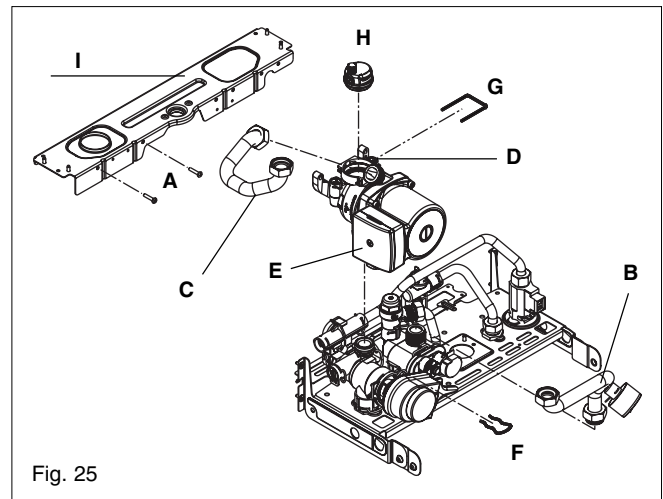

Fig. 25
6.5 PUMP ASSEMBLY (fig. 25)
6.7 BOTTOM AUTOMATIC AIR RELEASE VALVES (fig. 25)
6.24.1 EXPANSION VESSEL REMOVAL (with sufficient clearance above, fig. 25 & 38)
Disconnect the flexible expansion pipe from the vessel. Unscrew the nut that secures the vessel to the frame (I, fig. 25). Locate and remove the 6 screws (A) that secure the vessel top holding plate (B), remove the plate.